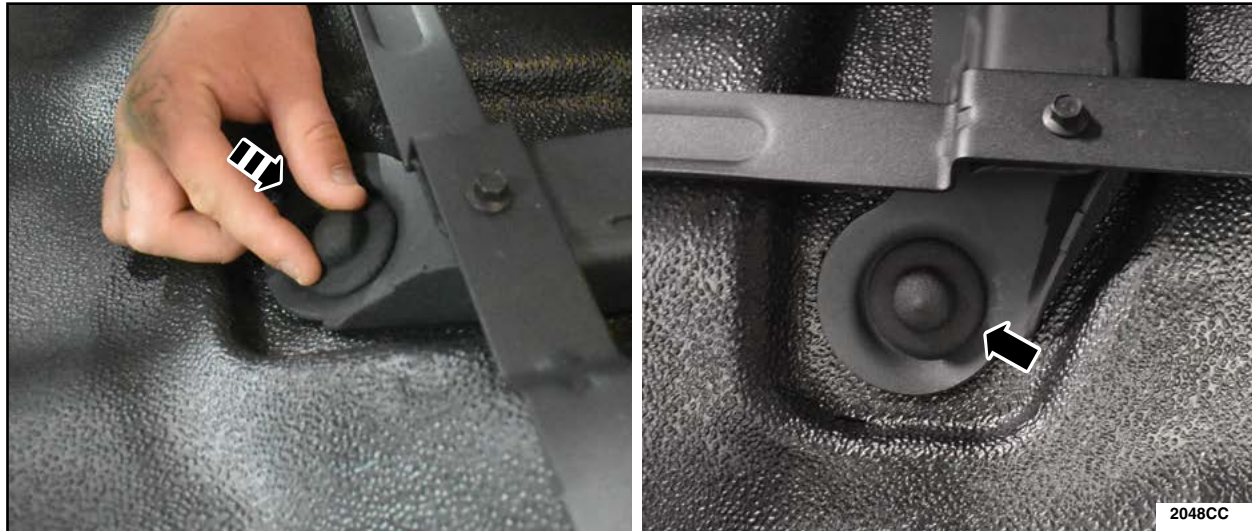

FIGURE 15
1. Install the rear seat front bolt covers as shown in Figure 15.